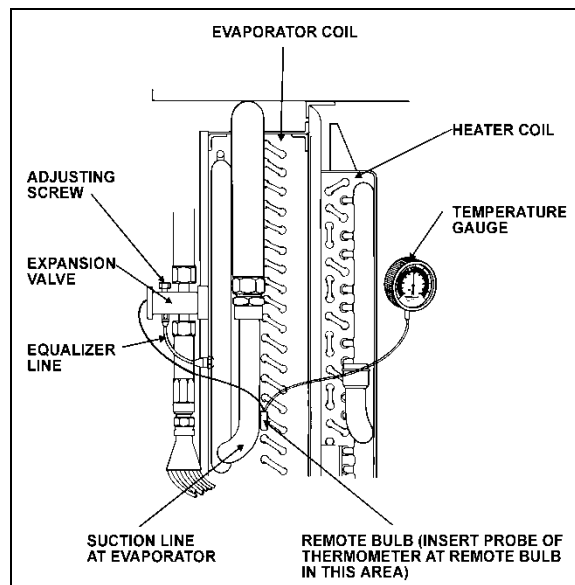

FIGURE 52: SUPERHEAT ADJUST. INSTALLATION 22046
3. Use a remote reading thermometer or thermocouple / multimeter to measure temperature at the evaporator outlet line near the existing remote bulb (Figure 52).